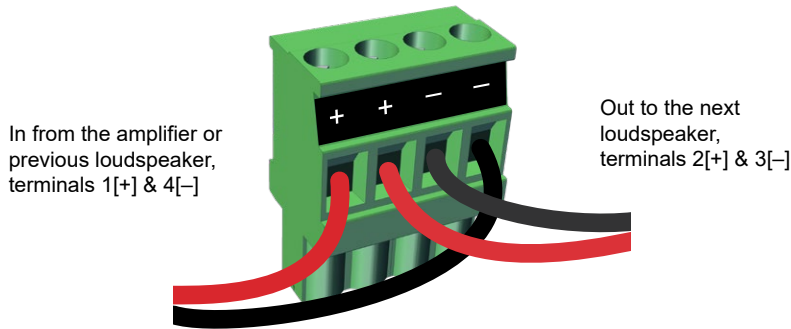

Figure 1. Wire euroblock terminal
5. Wire the euroblock terminal as shown in Figure 1.